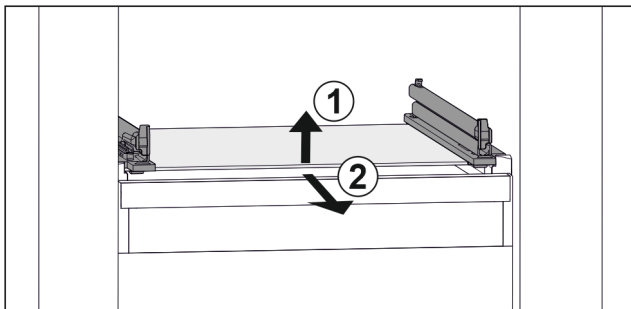

Fig. 112 Example illustration of glass shelf
- ▶ Lift glass shelf at the front. Fig. 112 (1)
- ▶ Take out glass shelf to the front. Fig. 112 (2)